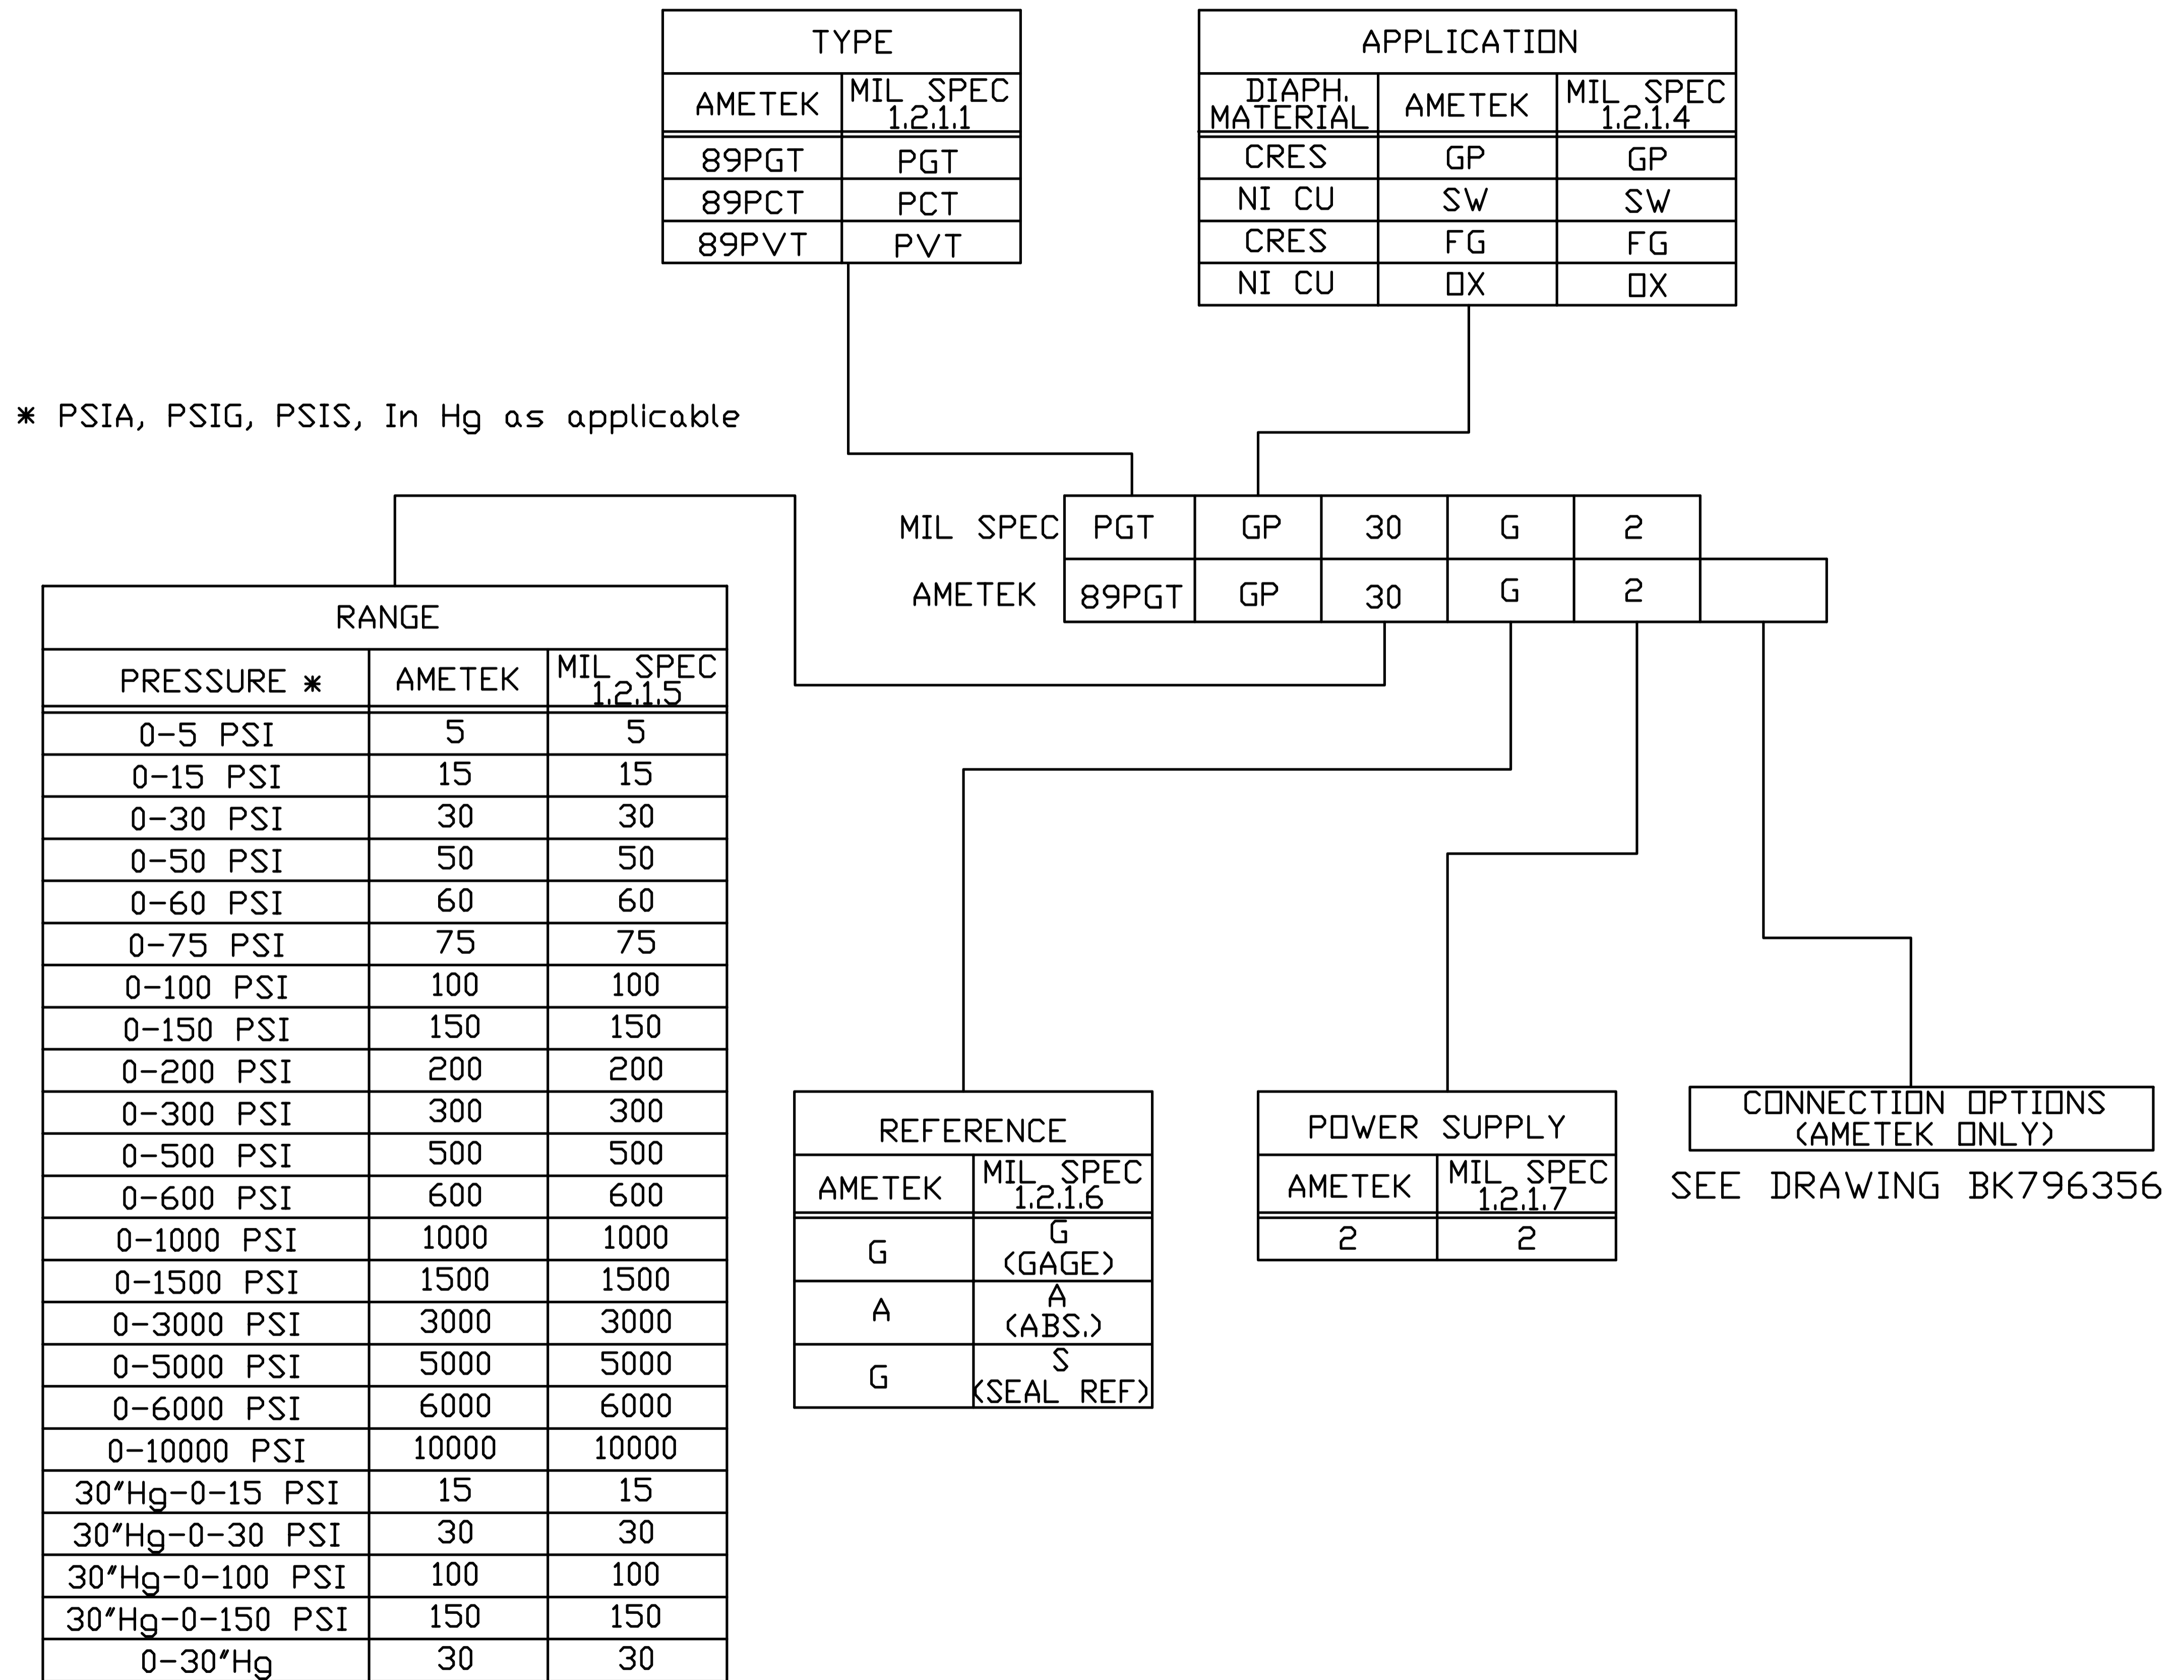

FIGURE 1-2. MODEL DESIGNATION
1-3.1 The pressure transducers are available with gage, absolute, compound and vacuum ranges (Fig. 1-2) with pressure ranges of 0-15 psi to 0-6000 psi including PSIA, PSIG, IN of Hg whichever is applicable. The pressure transducer conform to the requirements of MIL-P-24212C (SH).